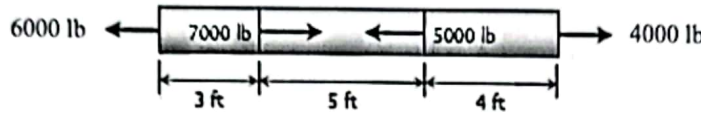

Fig. 4
4. a) An aluminum bar having a cross sectional area of  $0.5 \text{ in}^2$  carries the axial loads applied at the position shown in Fig. 4. Compute the total change in length of the bar if  $E = 10 \times 10^6 \text{ psi}$ . Assume the bar is suitably braced to prevent lateral buckling. (15) 1